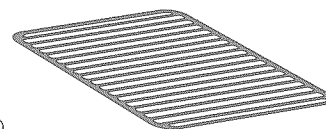

Figure 3
- If using a Searing Grill (see Figure 3 - available by mail order), preheat the grill for 5 to 10 minutes before placing your meat.